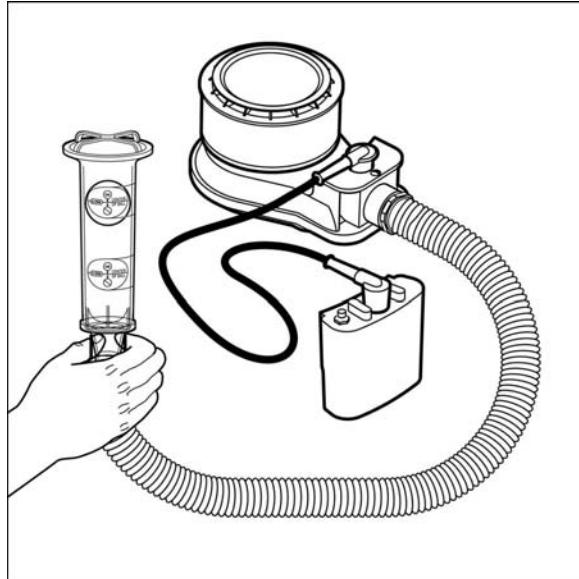

Fig: 10
- b. GVP-122, GVP-123 or H-115 – insert into the end of the breathing tube (Fig. 10) and hold vertically.